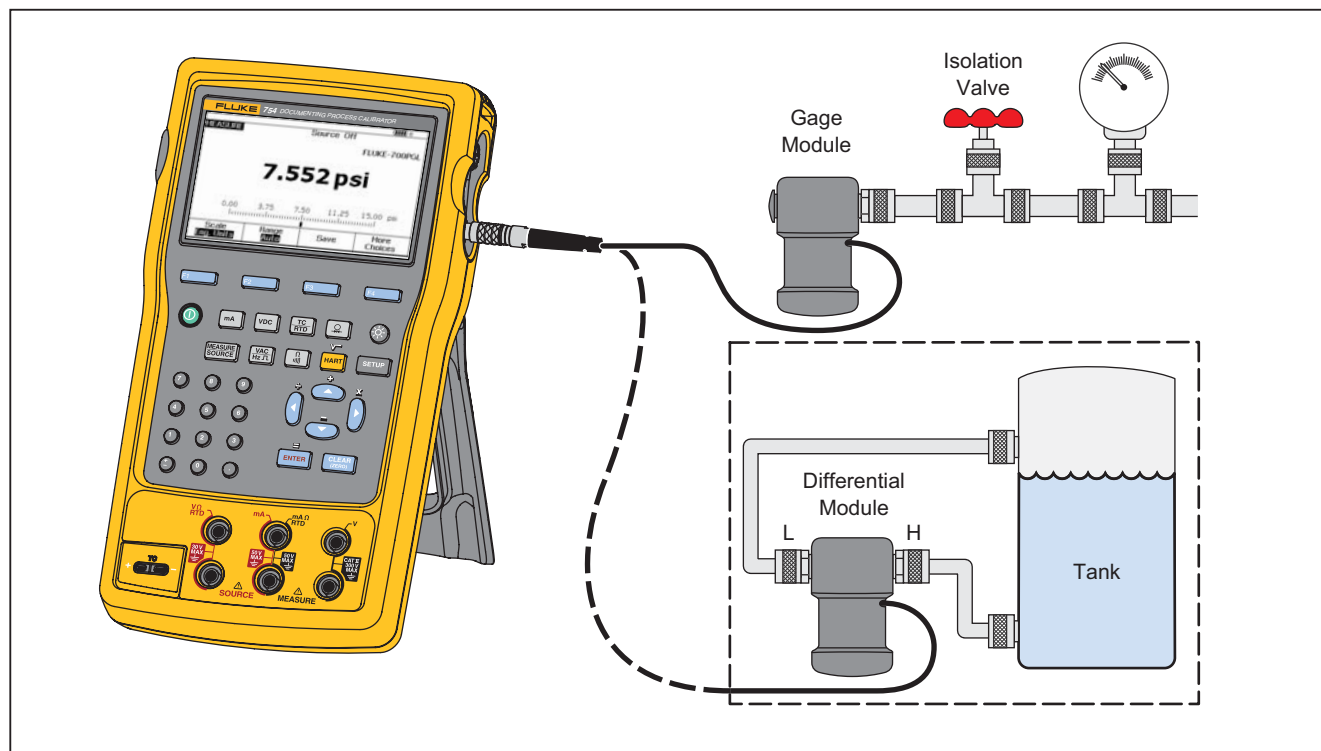

Figure 14. Pressure Measurement Connections
Connect a pressure module to the Product as shown in Figure 14. The threads on the pressure modules accept standard ¼ NPT pipe fittings. Use the supplied ¼ NPT to ¼ ISO adapter if necessary.
7. Attach the RTD to input jacks as the display or Figure 14 shows. Use the supplied jumper between the mA  $\Omega$  RTD MEASURE low jack and the V MEASURE low jack as shown if using a 3-wire connection.